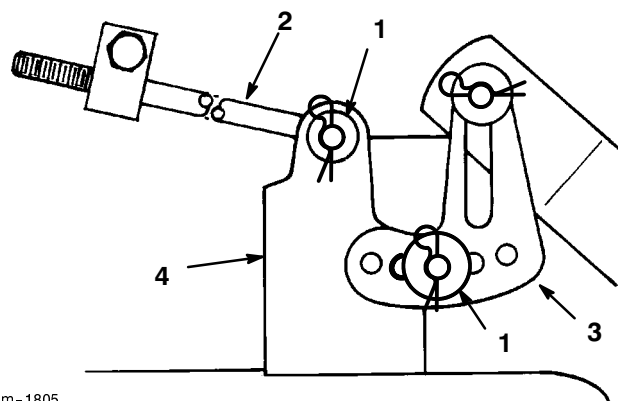

Figure 37
8. Remove the hairpin cotter and washer at the top of the mower leveling bracket (Fig. 37). Slide the bracket off of the mounting pin. Repeat this step on the opposite side of the mower.
9. Remove the hairpin cotter and washer from the end of the long rod (Fig. 37). Slide the rod out of the mower mount. Repeat this step on the opposite side of the mower.